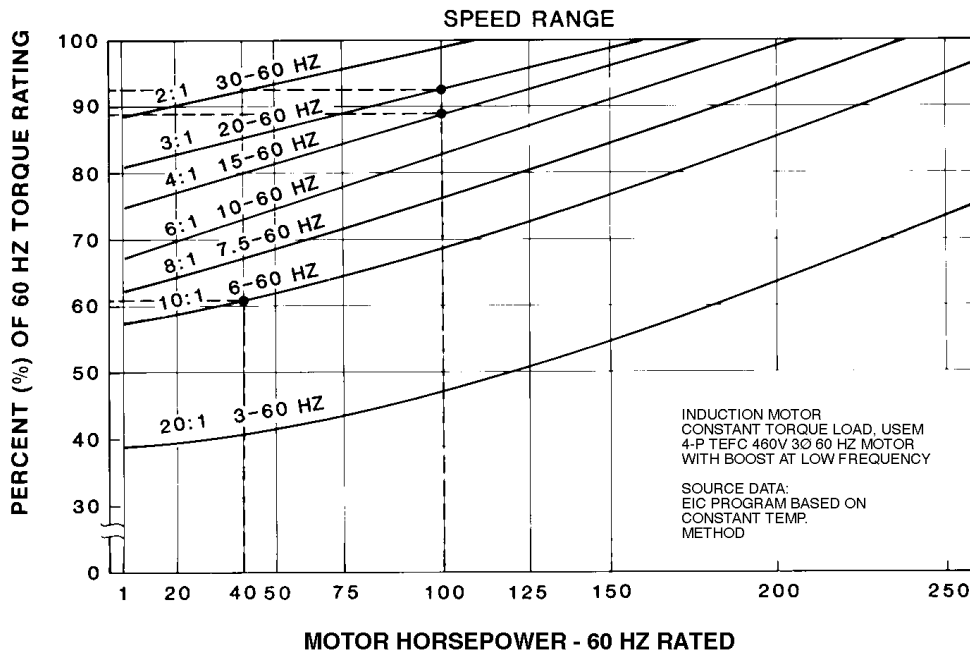

Figure 19
Additional motor derating is necessary for operating over wide speed ranges with standard efficiency 1.0 service factored motors. A useful guide to motor selection is shown in Figure 19 for minimum speed operation.
After evaluating the type of load, constant torque (CT) or variable torque (VT) from page 2, and having considered speed range requirements and motor derating from Figure 19, the correct size control may then be selected.